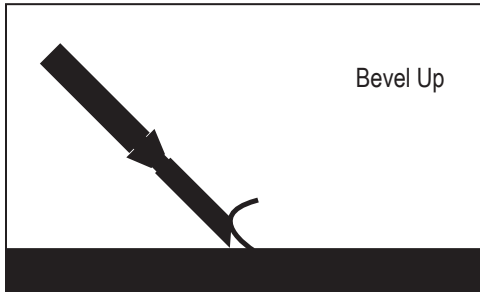
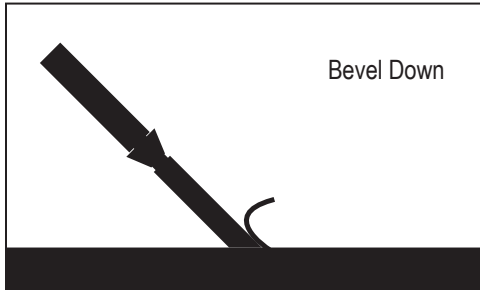

FIG. 9
FIG. 10
- Normally, bevel on blade is up for concrete (Figure 9); bevel down for wood (Figure 10)